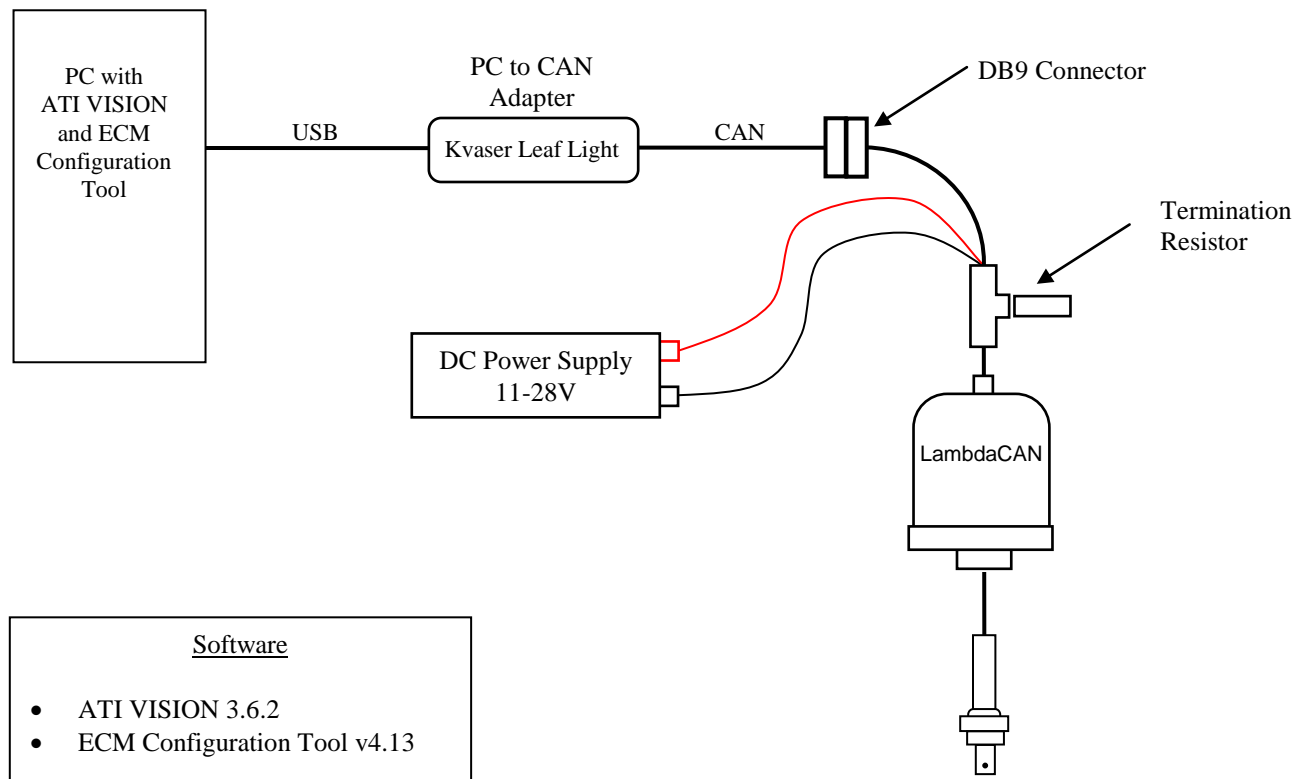

Figure 1: Equipment Schematic Layout
A typical hardware configuration is shown in Figure 1. In this example, a Kvaser Leaf Light CAN-USB adapter is used. Other supported adapters have a similar procedure. Connect the DB9 CAN connector of the LambdaCAN to the PC to CAN adapter. Supply 11-28V DC (5A min. supply) to the LambdaCAN.
1. Connect hardware as shown in Figure 1. Ensure LambdaCAN bi-color LED indicator near sensor connector is visible (green during normal operation, flashing red without sensor attached).